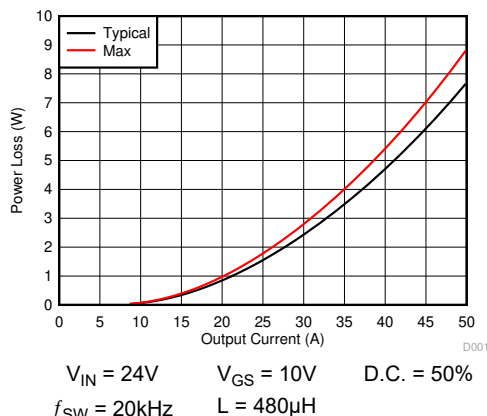
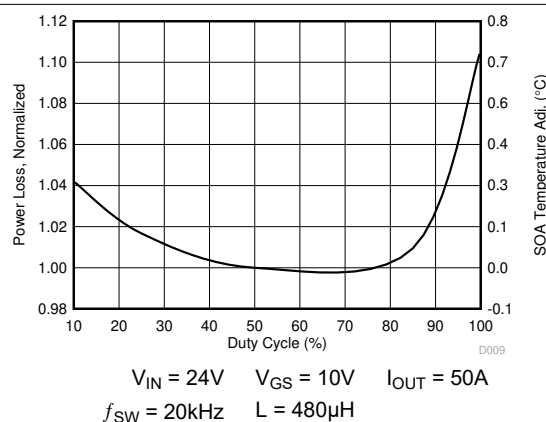

图 4-1. Power Loss vs Output Current
图 4-6. Normalized Power Loss vs Duty Cycle
The typical power block system characteristic curves (图 4-1 through 图 4-6) are based on measurements made on a PCB design with dimensions of 4in (W) × 3.5in (L) × 0.062in (H) and 6 copper layers of 2oz copper thickness. See 节 5 section for detailed explanation. $T_J = 125^\circ\text{C}$, unless stated otherwise.
图 4-1 plots the CSD88584Q5DC power loss as a function of load current. The measured power loss includes both input conversion loss and gate drive loss.
In the example below, we show how to achieve this for the temperatures $T_C = 124^\circ\text{C}$ and $T_B = 120^\circ\text{C}$. First we draw from 50 A on the Y-axis at 124°C to 120°C on the X-axis. Then, we draw a line up from where this line crosses the T_X line to see that this line intercepts the SOA at 39A. Thus we can assume if we are measuring a PCB temperature of 124°C , and a top case temperature of 120°C , the power block can handle 39A RMS, at the normalized conditions. At conditions that differ from those in 图 4-1, the user may be required to make an SOA temperature adjustment on the T_X line, as shown in the next section.
- Power loss at 40A \approx 4.7W (图 4-1)
- Normalized power loss for duty cycle \approx 1.06 (图 4-6)
- SOA adjustment for duty cycle \approx 0.4°C (图 4-6)